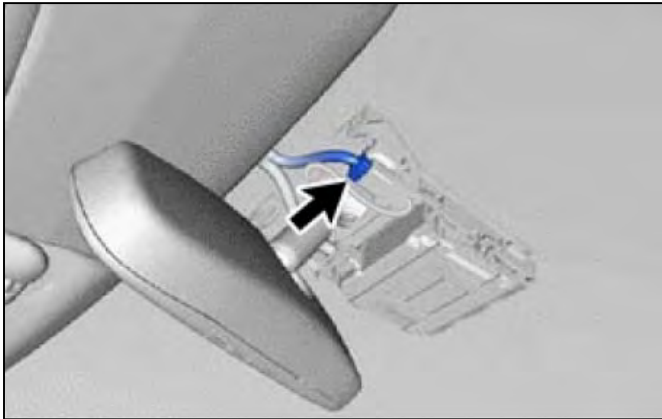

Figure 7b
- a. Disconnect the connector. Disengage the clamp. See figure 7b and figure 7c.